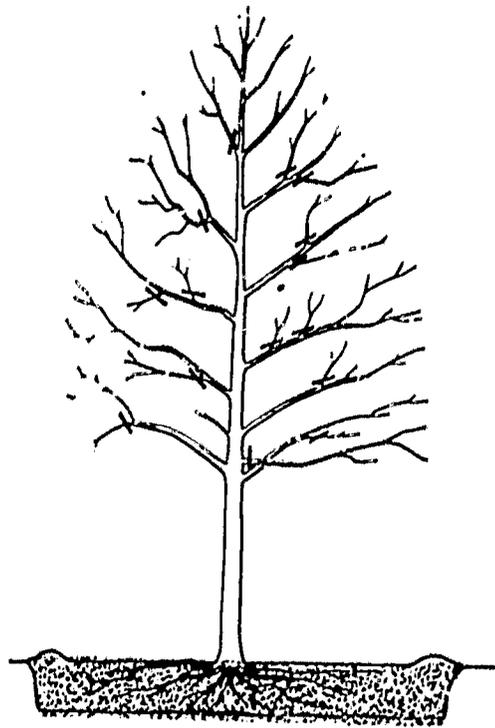

Fig. 13. The black bars on the branches indicate top growth that should be removed on newly planted trees.
**Pruning.** Newly planted trees should be pruned because many of the fibrous roots through which water is obtained are lost when the trees are dug. In general, removing 15-35 percent of the leaf-bearing wood to compensate for this root loss is recommended to help prevent injury or death of newly planted trees. Remove injured, weak, interfering, and poorly located branches. Entire branches should be removed, leaving the tree with a thinned out crown, one good leader, and an adequate number of well-spaced lateral branches with uncut tips (Fig. 13). Do not remove small twigs along the leader or main branches.